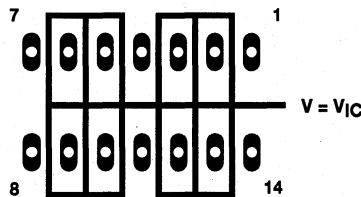
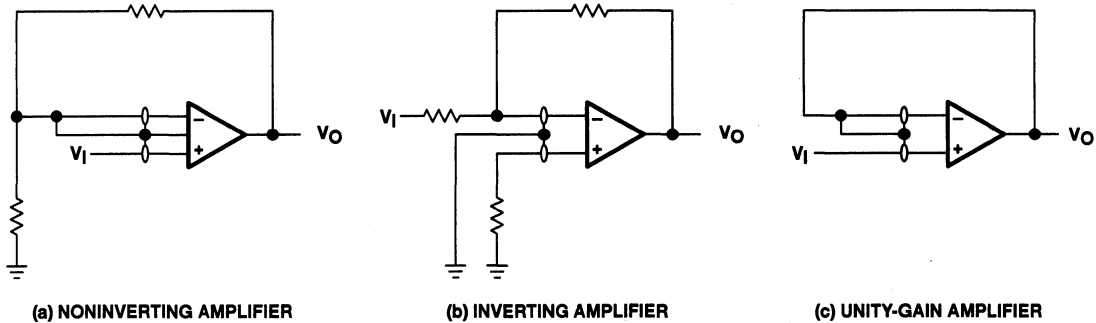

Figure 33. Isolation Metal Around Device Inputs (N Package)
Figure 37. Guard-Ring Schemes
- Isolate the device from other potential leakage sources. Use a grounded shield around and between the device inputs (see Figure 33). Leakages that would otherwise flow to the inputs are shunted away.
Because of the extremely high input impedance and resulting low bias-current requirements, the TLV2324 is well suited for low-level signal processing; however, leakage currents on printed-circuit boards and sockets can easily exceed bias-current requirements and cause a degradation in device performance. It is good practice to include guard rings around inputs (similar to those of Figure 33 in the Parameter Measurement Information section). These guards should be driven from a low-impedance source at the same voltage level as the common-mode input (see Figure 37).